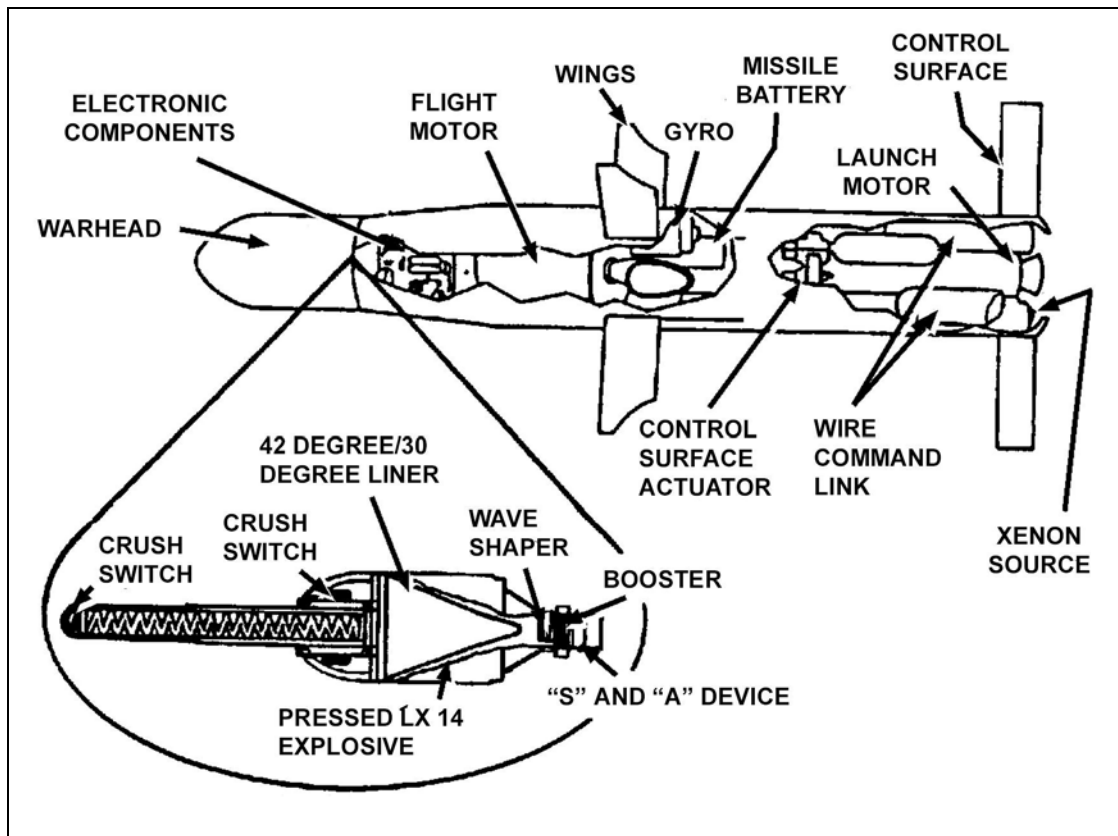

Figure 2-15. Basic and improved TOW missiles.
b. **Characteristics.** TOW models still in use include the following (Figure 2-15, page 2-21). Although the basic Bradley TOW system can fire the TOW 2 and newer